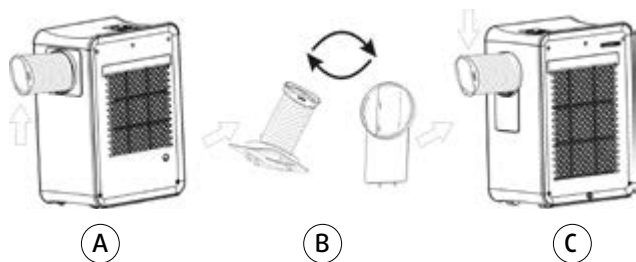

Fig.6.
Installation of the hose in cooling / heating modes (Fig. 6)
Disconnect the removable grill and the air outlet hose, as shown by the arrow in Fig. 6 – A, then interchange their position (B) and connect to the unit. Final structure is shown in Fig.6 – C.